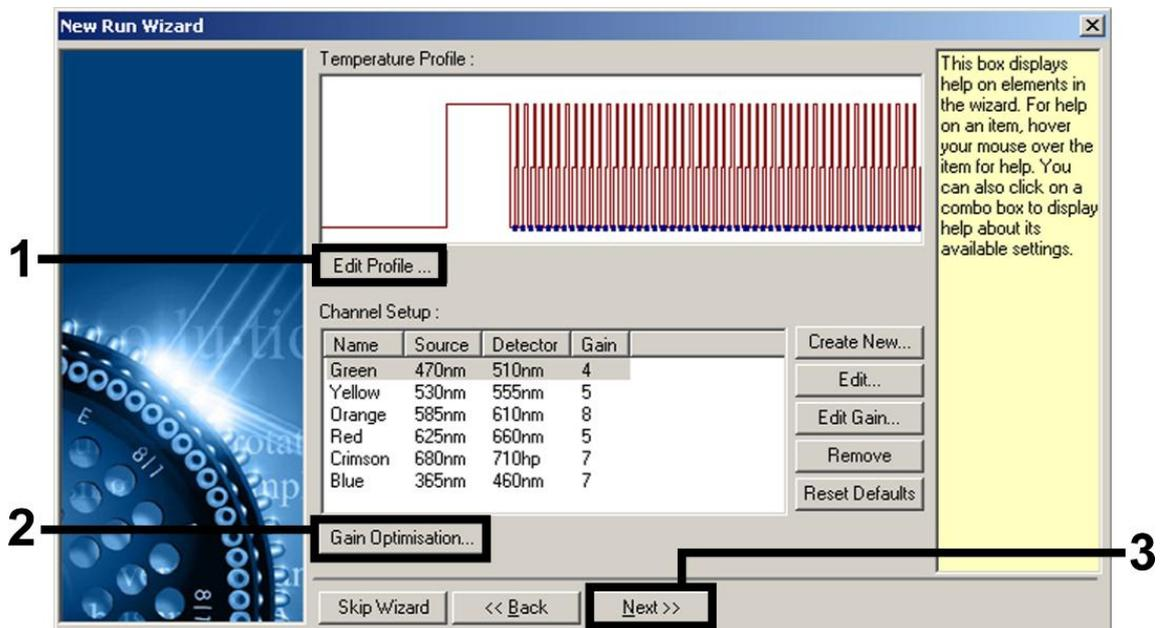
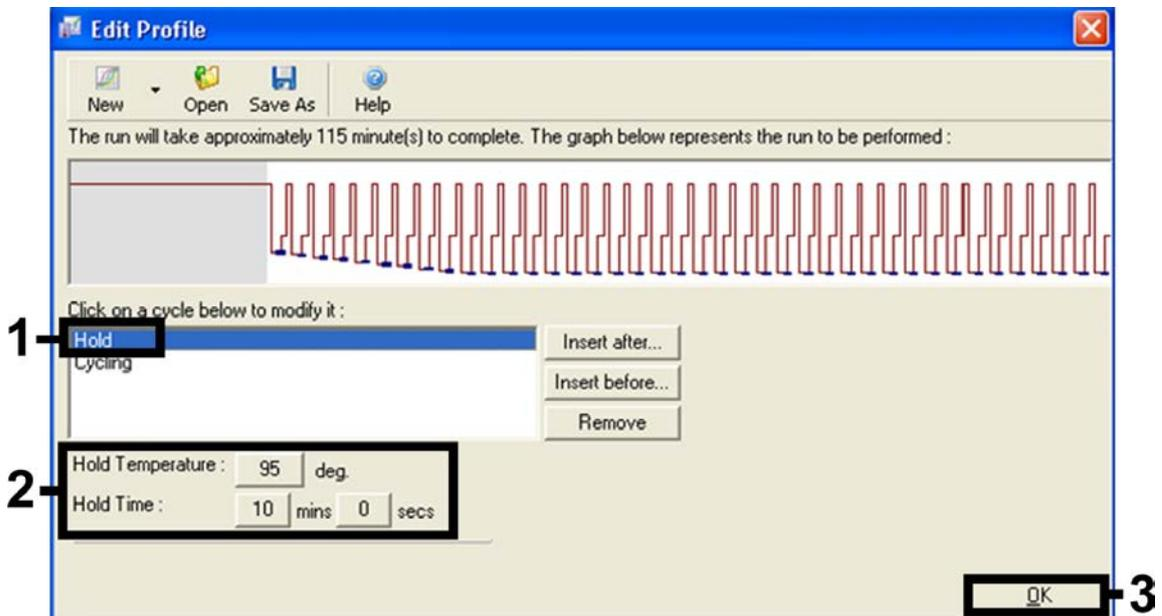

Figure 5. Editing the profile.
Figure 6. Initial activation of the hot-start enzyme.
Initial activation of the hot-start enzyme	Figure 6
- Click the “Edit Profile” button in the next “New Run Wizard” dialog box (Figure 5), and program the temperature profile as shown in Figures 6–7.